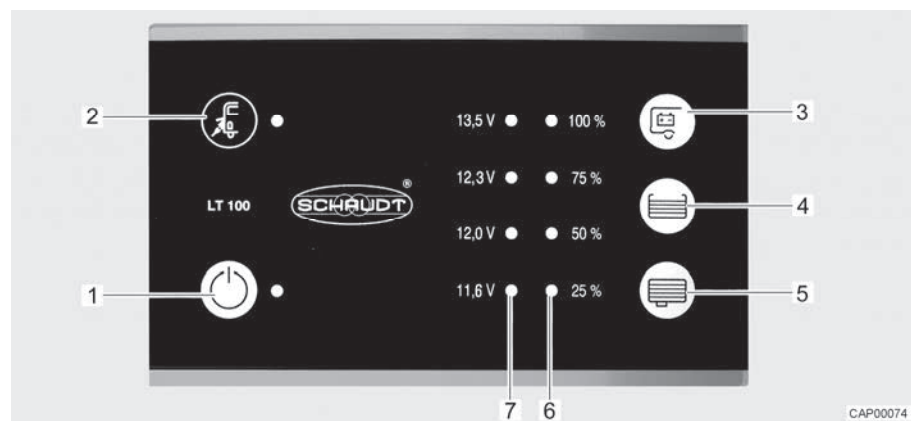

Fig. 81 Panel (LT 100)
The yellow LED at the mains connection symbol " (Fig. 81,2) is lit when the vehicle is connected to an external mains supply. In this case, the LED will also be lit when the panel is switched off.
The 12 V main switch (Fig. 81,1) switches the panel and the 12 V power supply of the living area on and off.
- Press switch " (Fig. 81,1): The 12 V living area power supply is switched on. The LED lights up green.
- Press switch " (Fig. 81,1) again: The 12 V living area power supply is switched off. The LED goes out.
The LED array (Fig. 81,7) displays the battery voltage of the living area battery as follows:
- Press the button " (Fig. 81,3): the battery voltage of the living area battery is displayed.
The LED array (Fig. 81,6) displays the fill level of the fresh water tank or of the waste water tank.
Press the button " (Fig. 81,4): The fill level of the fresh water tank is displayed by lit LEDs.
Press the button " (Fig. 81,5): The fill level of the waste water tank is displayed by lit LEDs.